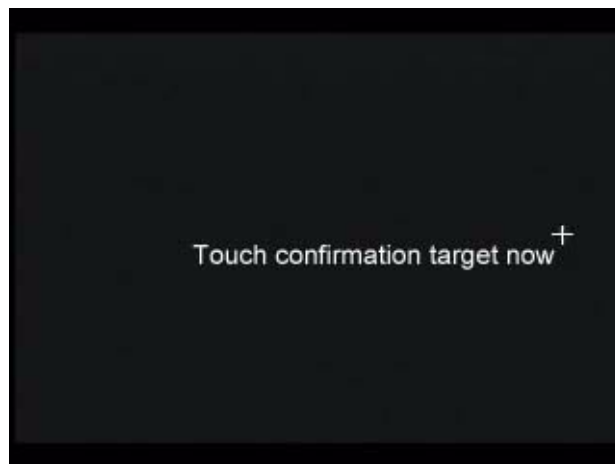

Figure 8.6 Calibration Confirmation Screen
- 9 Tap the center of the crosshairs. The calibration confirmation appears. (Figure 8.6)